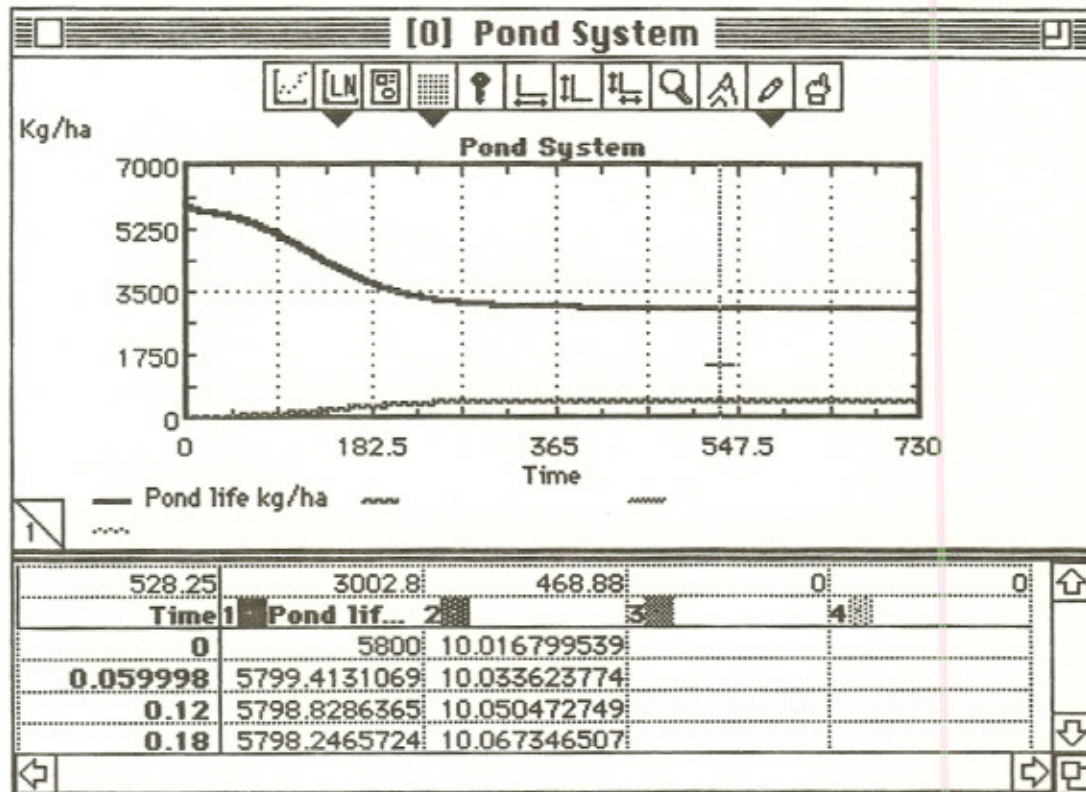

Figure 10. Growth of pond life biomass and sunfish biomass in kilograms per hectare in days.
2. If your graph does not match Figure 10 below, hypothesize why and change the values if needed. For example, if the graph line showing change in pond life biomass does not start near the top of the graph, check that you filled in the right starting value in the Pond life dialog box.
You need to add a legend to the data table shown under the graph in Figure 10.
1. In the dialog boxes set the Pond life biomass and Sunfish biomass at the steady state quantities you found in your previous graph (like Figure 10). These were about 3000 and 470, respectively.